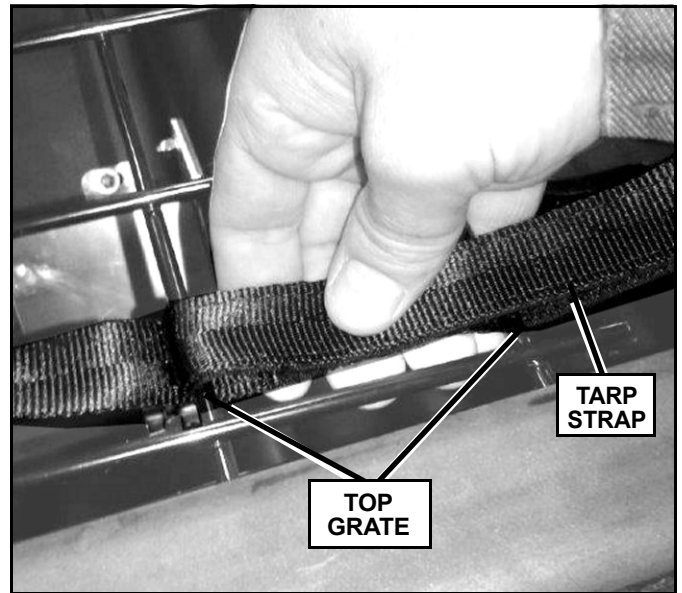

Figure 7
6. Attach the hoop and loop fastener strips on each strap together, over the bars on the grate. (See Figure 7.)